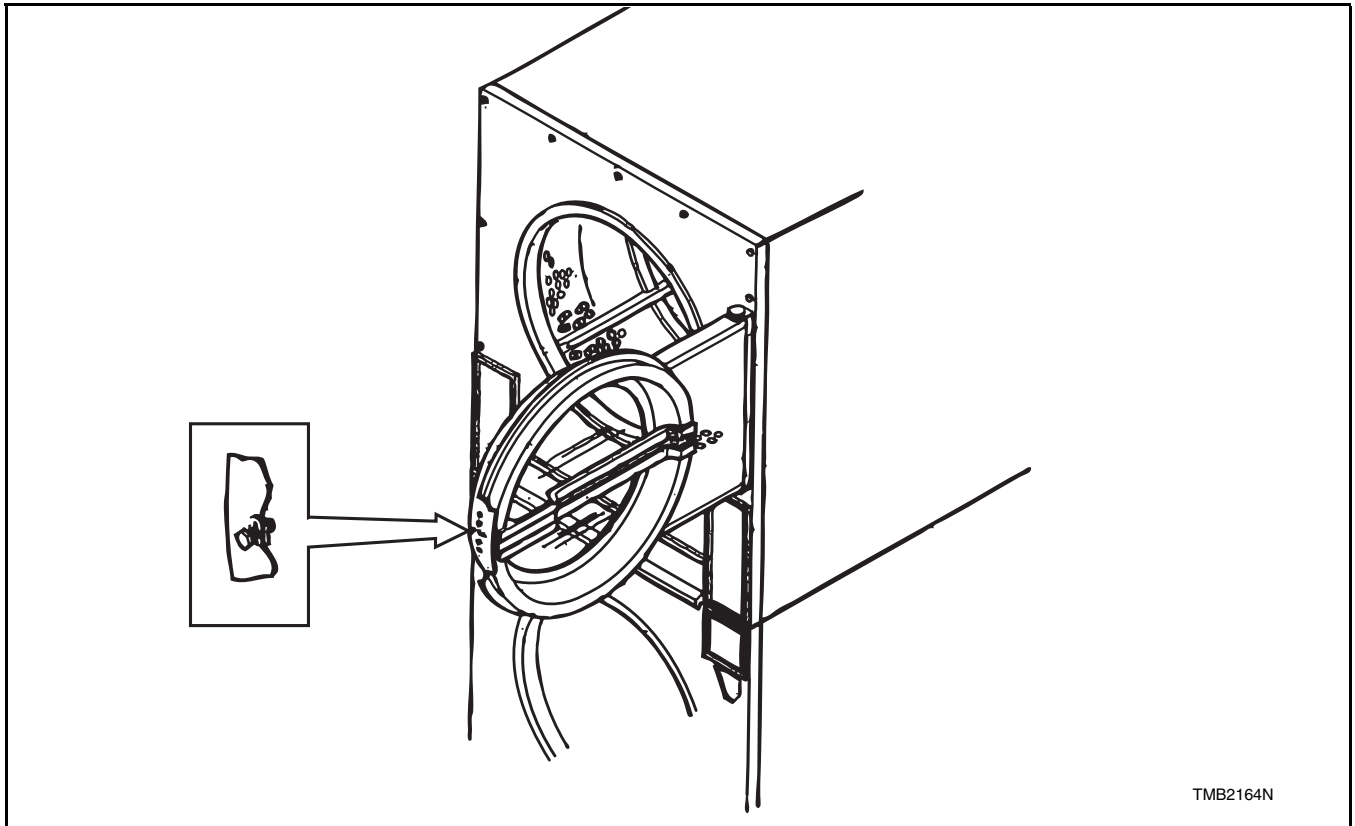

Figure 14
Refer to *Figure 14*.
**NOTE: Electrical power to the tumbler must be on. The AVAILABLE light will be lit. Refer to *Figure 14*.**